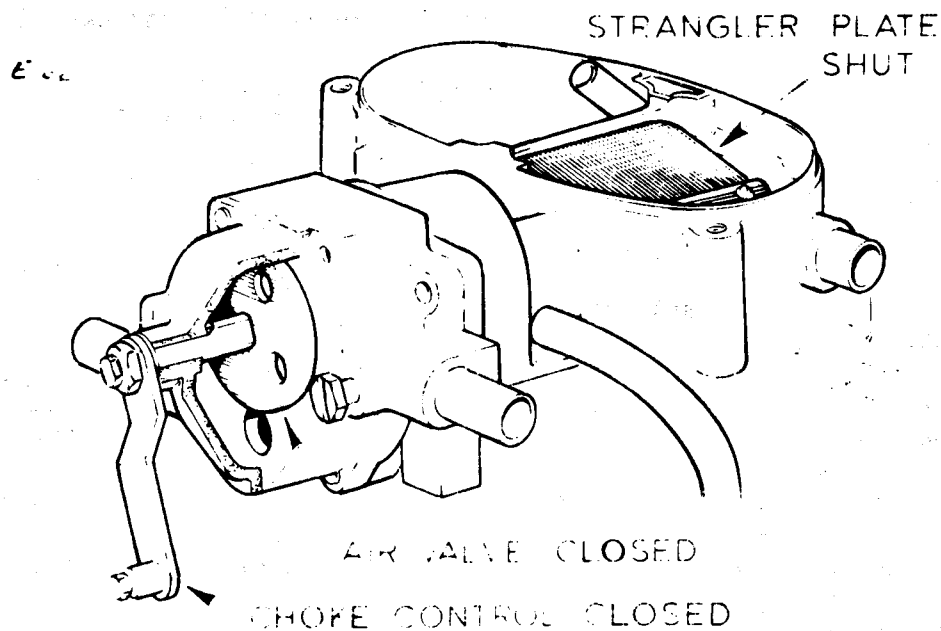

Fig. 15 Cold Start System
1. Provision for cold starting (Fig. 15)